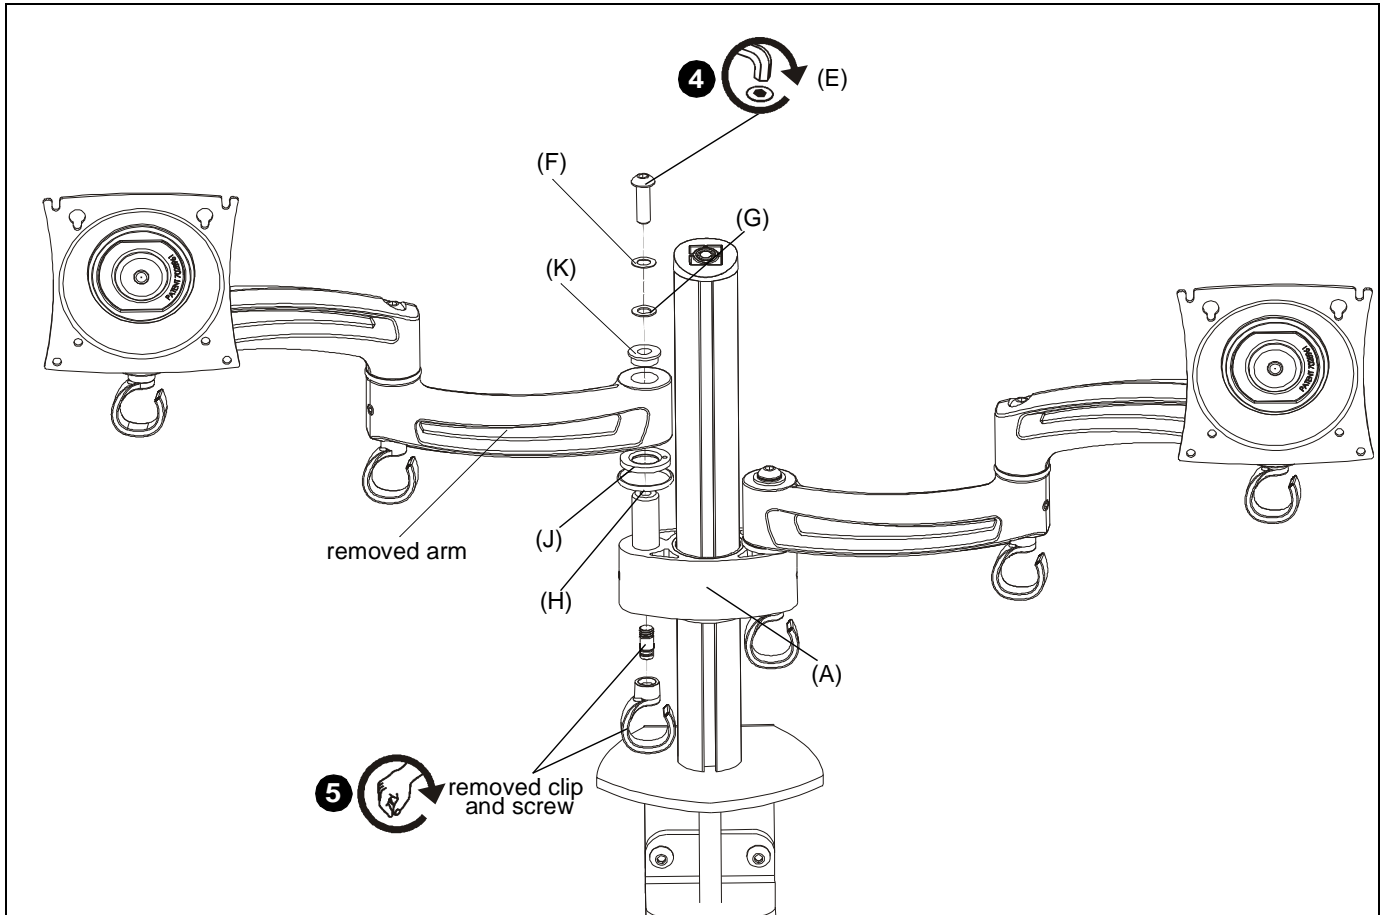

Figure 4
4. Use 5/16-18 x 1" button head cap screw (E), UHMW washer (F), spacer (G), pocket washer (K), pivot ring (J), and metallic ring (H) to secure removed arm onto vacant pin on KRA212 assembly. (See Figure 4)
5. Attach removed cable clip and screw to bottom of KRA212 coupler. (See Figure 4)